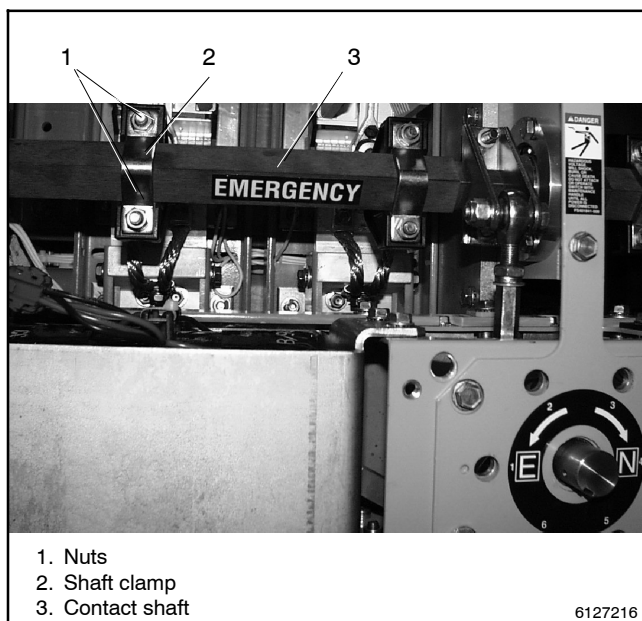

Figure 9-13 Movable Contact Shaft Clamps
2. Disconnect the crank arm from the shaft. Use a 1/2 in. socket wrench to remove the two nuts with lock washers from each shaft clamp. Then remove the loose clamp from the shaft. Save all hardware. See Figure 9-13.